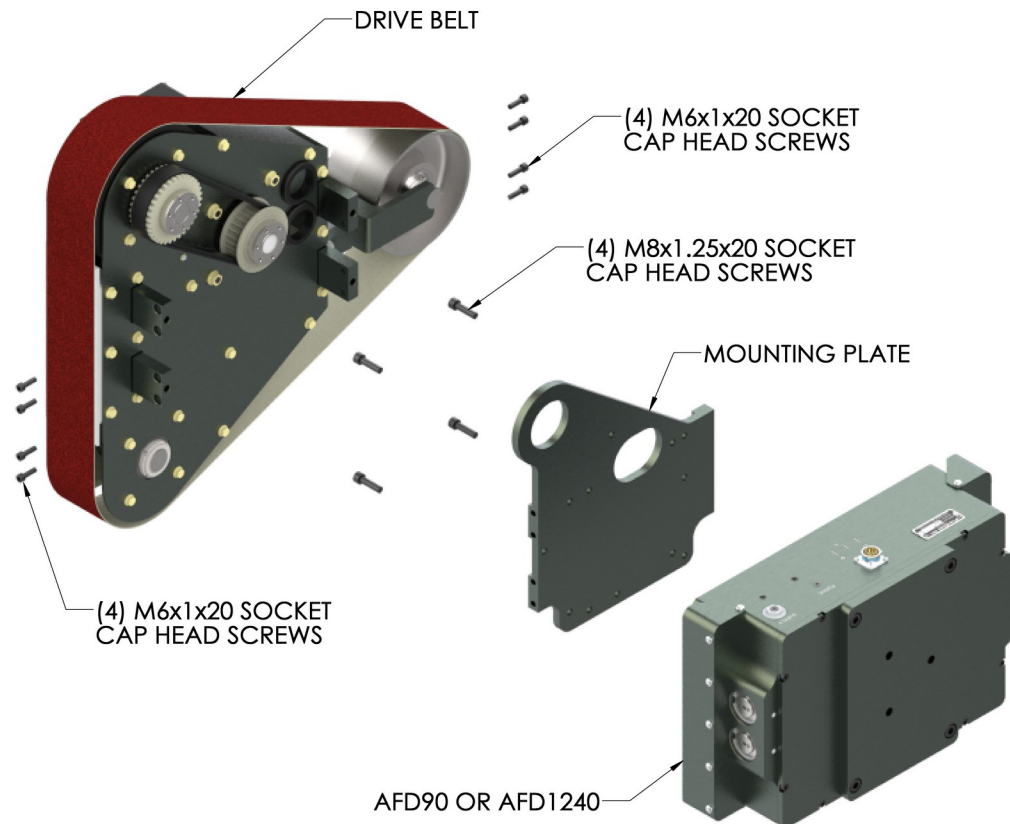

Figure 1. Mounting the RBS372 to an AFD
The RBS372 Robotic Belt Sander is designed to be mounted on an AFD90/1240 adjustable force device. To mount the RBS372 to an AFD: first detach the Mounting Plate by removing the eight (8) M6x1x20 Socket Head Cap Screws securing it to the RBS. The Mounting Plate has three (3) sets of four (4) holes for mounting directly to the AFD90/1240. Each of the four (4) hole sets allows the RBS to be oriented in three different positions relative to the Carriage travel. Position the Mounting Plate on the AFD Carriage and secure it using four (4) M8x1.25x22 Socket Head Cap Screws. Finally reattach the RBS to the Mounting Plate using the eight (8) M6 fasteners previously removed (See Figure 1). Tighten all the fasteners to the torque specified in Section 5.0. If the PushCorp supplied Mounting Plate is not used, the customer is responsible for providing a Drive Belt guard. **Do not operate the RBS without a Drive Belt guard.**